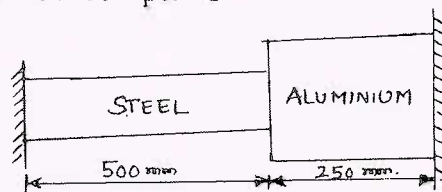

Fig.Q2(b)
- b. A composite bar made up of aluminium and steel is held between two supports as shown in Fig.Q2(b). The bars are stress free at a temperature of 42°C. What will be the stresses in the two bars with the temperature drops to 24°C if (a) the supports are unyielding (b) the supports come nearer to each other by 0.1 mm. The cross sectional area of steel bar is 160 mm² and that of aluminium bar is 240 mm². $E_A = 0.7 \times 10^5$ N/mm², $E_s = 2 \times 10^5$ N/mm², $\alpha_A = 24 \times 10^{-6}$ per °C and $\alpha_s = 12 \times 10^{-6}$ per °C (10 Marks)